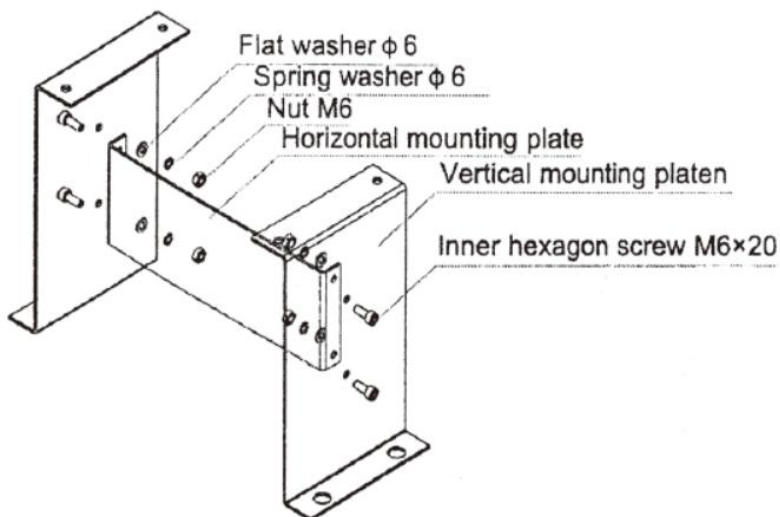

Figure 5
- b) If select the detachable mounting base, the base should be assembled first as shown in Figure 5: